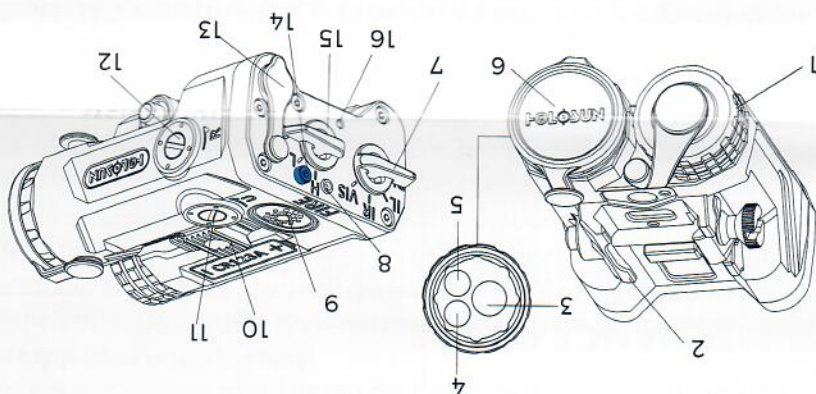

Figure 1 IRIS-GR3/RD3-HP
1.2 Component Description (figure 1)